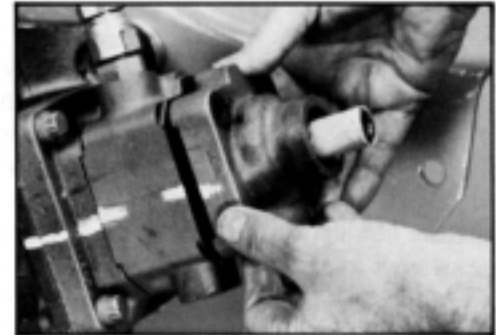

Figure 36
3.11 Grease and install a **new** seal ring (8) in upper cover (7) and assemble upper cover assembly onto the worm shaft (23). SEE FIGURE 36.